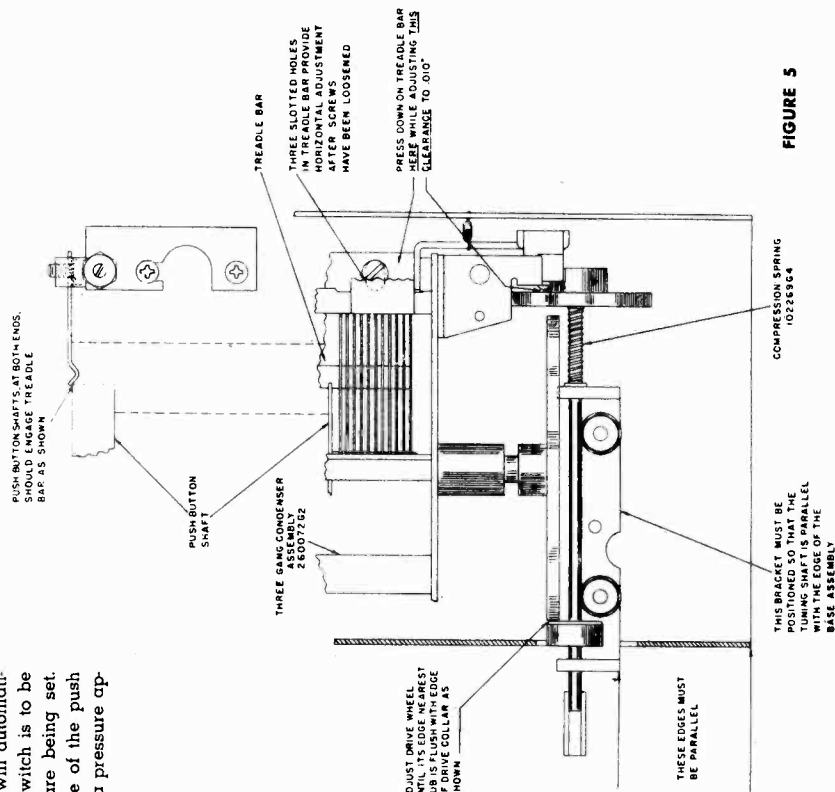

FIGURE 5
1. Assemble the Tuning Shaft, Drive Collar, Compression Spring and Flywheel in the order shown on Figure 5. The distance between the front of the Drive Collar and the front of the Tuning Shaft must be 1/4 inches as specified on Figure 4. Install the Flywheel on the rear of the Tuning Shaft and slide it forward until it nearly touches the edge of the Drive Wheel; then tighten one of the set screws in the Flywheel hub. Insert a .010" gauge between the Flywheel and the Pin, and while holding the gauge in this position, loosen the set screw in the Flywheel hub that was previously tightened. The Compression Spring should force the Flywheel back against the gauge when this occurs; tighten both set screws in the Flywheel hub.
3. The Drive Wheel is properly located on its shaft when its edge nearest the hub is in line with the outside edge of the Drive Collar as shown on Figure 5. Two Allen set screws in the Drive Wheel hub provide a means of adjusting the position of this wheel.
5. If the push button shafts at both ends do not engage the Treadle Bar as shown on Figure 5, the three screws in the Treadle Bar must be loosened and the Treadle Bar should be moved until the required condition is obtained.